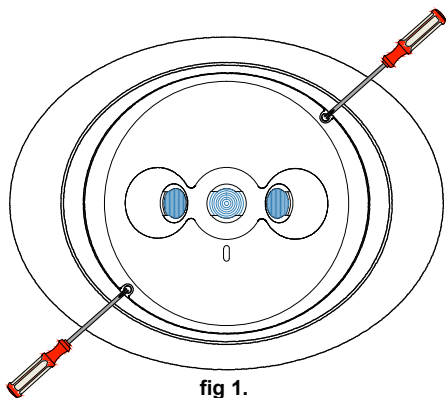

fig 1.
1. Remove the Surface Mounted Quatrum from its protective box and remove the mounting plate from the Shroud by unscrewing the x2No. M3 screws on the front of the fitting. (See fig 1.) Place the shroud and the fixing screws in a safe place for re-fitting later on.